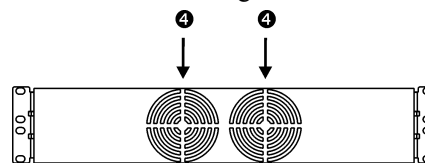

Figure 4: SYTF2 / SYTF2J / SYTF3 / SYTF3J
**Fans 4:** Two fans (see Figure 4) on the front of the Step-Down Transformer circulate airflow and cool the unit. The redundant fan will not operate unless the internal temperature of the unit becomes 100 °C or failure of the main cooling fan.